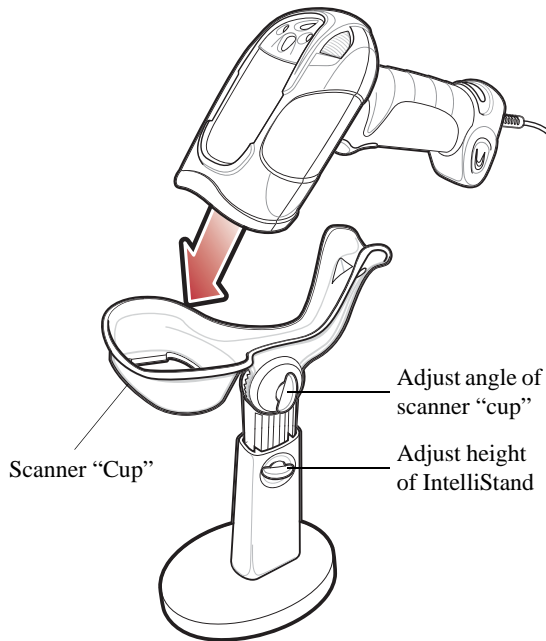

Figure 2-4. Inserting the Scanner in the IntelliStand
2. Insert the scanner into the IntelliStand by placing the front of the scanner into the stand's "cup" (see Figure 2-4).